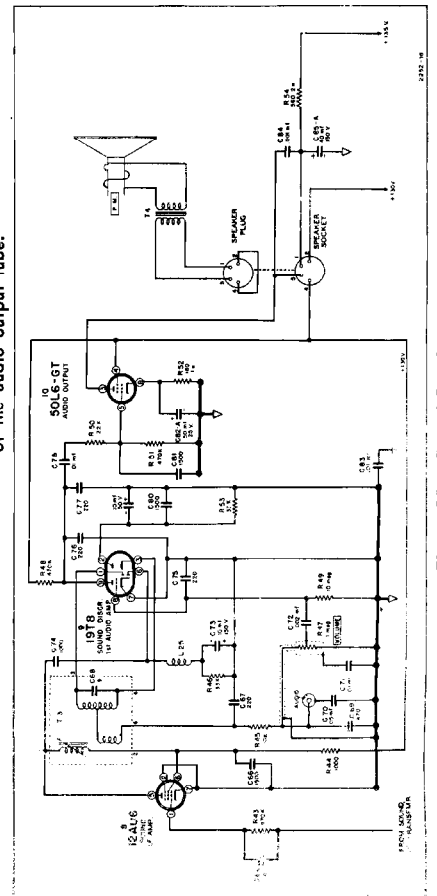

Figure 10. Sound Section
The sound section (Figure 10) consists of a 4.5-megacycle IF amplifier, tube 8, a frequency-modulation ratio detector discriminator and first audio amplifier, tube 9, and an audio output tube (10) driving a permanent magnet speaker.